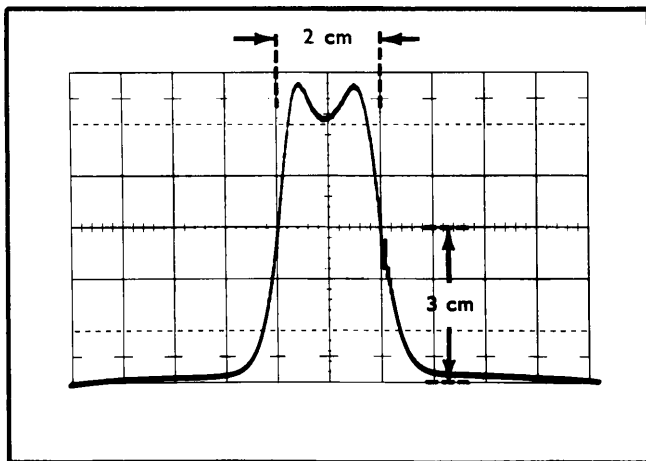

Fig. 5-3. Typical for Resolution Check (Step 7).
e. Check the display for a signal width of 2 centimeters at 3 centimeters above the base line. (See Fig. 5-3.)